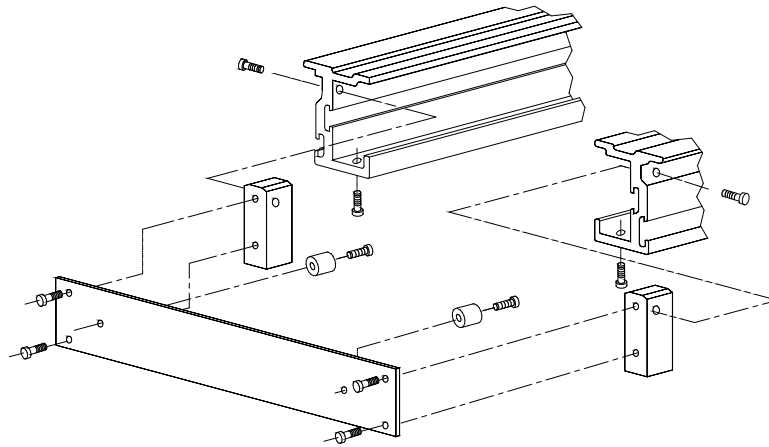

Figure 22
3. Check that the hardware securing the end plates are tight. See Figure 22.